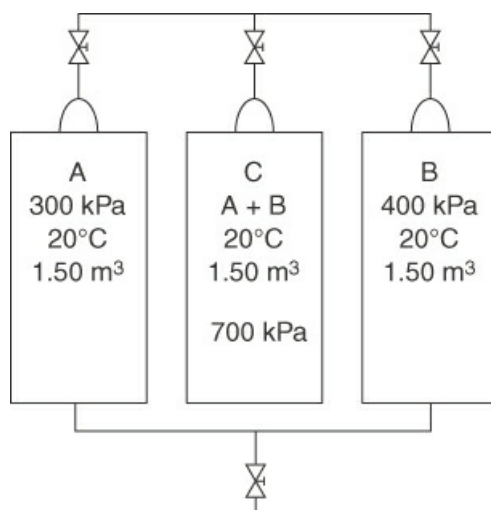

Figure 6.4 Illustration of the meaning of partial pressure of the components of an ideal gas mixture
with commercial instruments, you can calculate the value from Equation (6.5) and/or Equation (6.6). To illustrate the significance of Equation (6.5) and the meaning of partial pressure, suppose that you carried out the following experiment with two nonreacting ideal gases. Examine Figure 6.4. Two tanks of 1.50 m^3 volume, one containing gas A at 300 kPa and the other gas B at 400 kPa (both gases being at the same temperature of 20°C), are connected to an empty third tank (C) of the same volume. All of the gas in tanks A and B is forced into tank C isothermally. Now you have a 1.50 m^3 tank of A + B at 700 kPa and 20°C for this mixture. According to Equation (6.5), you could say that gas A exerts a partial pressure of 300 kPa and gas B exerts a partial pressure of 400 kPa in tank C. Of course, you cannot put a pressure gauge on the tank and check this conclusion because the pressure gauge will read only the total pressure. These partial pressures are hypothetical pressures in tank C that the individual gases would exert if each was put into separate but identical volumes at the same temperature.